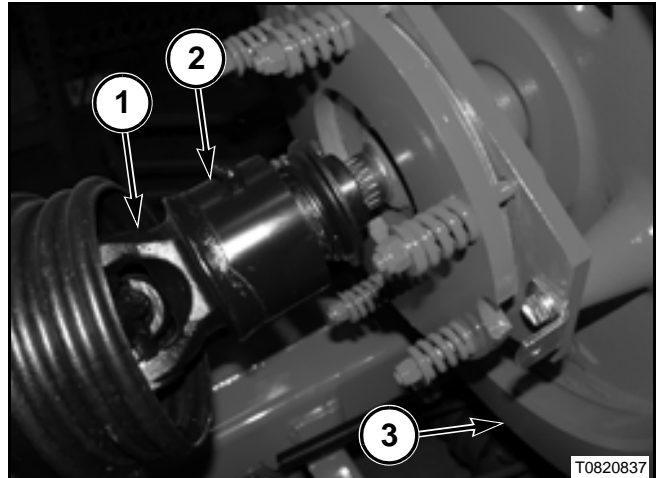

FIG. 3
FIG. 3: The baler is driven by the tractor PTO system. The baler requires a standard 540 rev/min tractor PTO. The baler uses a four U-joint drive shaft between the tractor and the baler. The tractor power goes from the rear U-joint (1) of the drive shaft to the overrunning clutch (2).